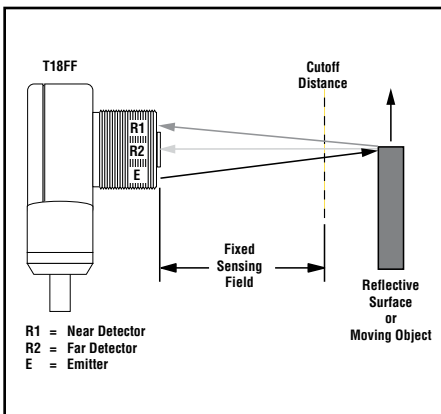
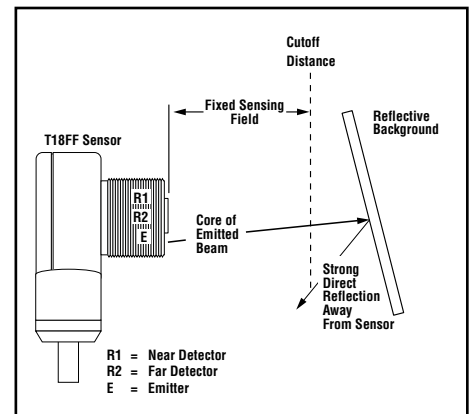

Figure 3. Reflective background – problem
Figure 4. Reflective background – solution
*Avoid mirror-like backgrounds that produce specular reflections.* False sensor response will occur if a background surface reflects the sensor's light more strongly to the near detector, or "sensing" detector (R1), than to the far detector, or "cutoff" detector (R2). The result is a false ON condition (Figure 3). To cure this problem, use a diffusely reflective (matte) background, or angle either the sensor or the background (in any plane) so the background does not reflect light back to the sensor (see Figure 4). Position the background as far beyond the cutoff distance as possible.